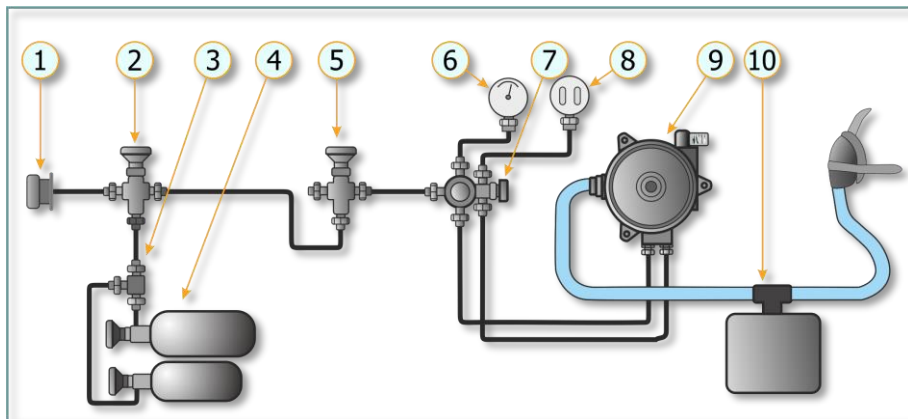

Figure 5.18. Oxygen supply system
The oxygen supply system (Figure 5.18) provides the pilot with the required amount of oxygen during a flight.
(Figure 5.18, 5) on the left side
(6) MK-12 oxygen pressure gauge (Figure 5.18, 6) on the instrument panel to the left
(7) KR-14 pressure relief valve with emergency supply valve
(Figure 5.18, 7) on the left side
(Figure 5.18, 8) on the left side
(Figure 5.18, 9) on the left side